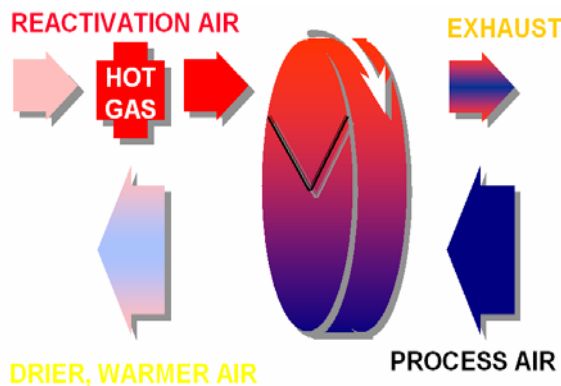

Figure 2-6 Solid Desiccant
- 1) **Solid Desiccants** (Figure 2-6):